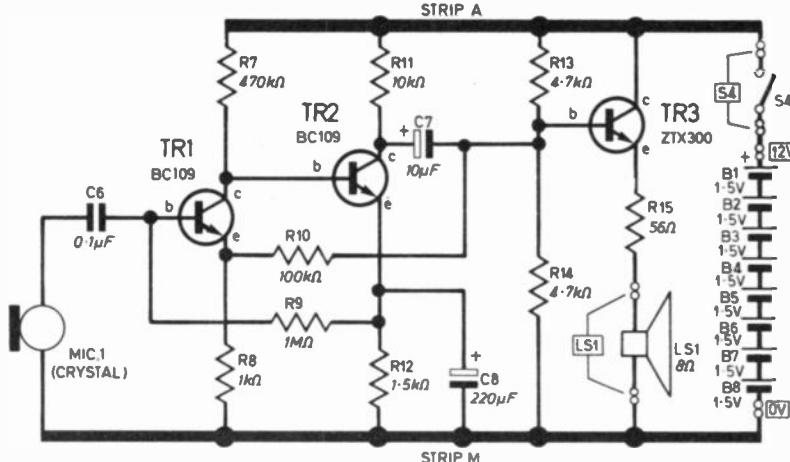
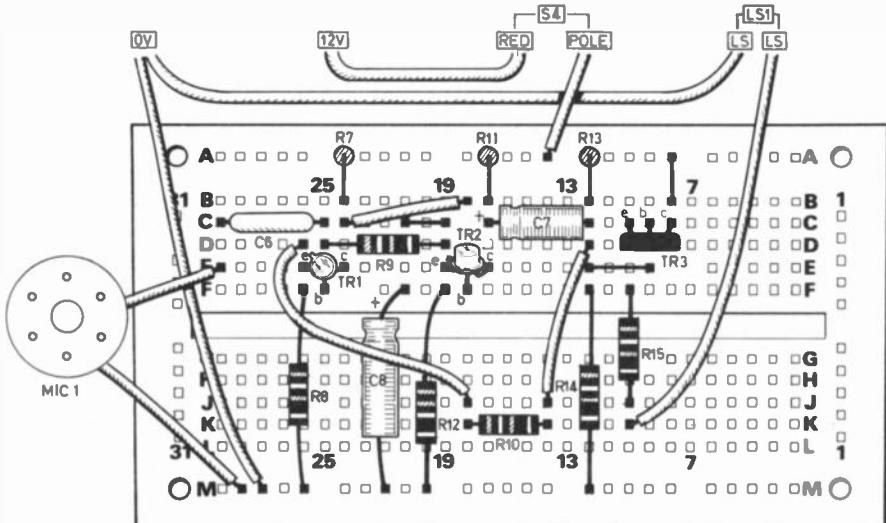
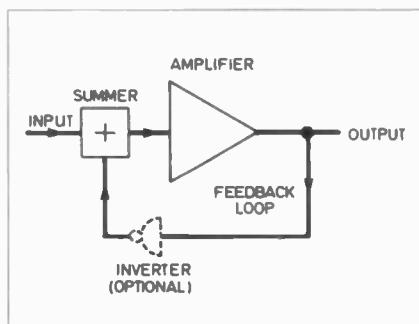

Fig. 7.7. Circuit diagram of a high gain, low noise amplifier with emitter follower (last stage).
Fig. 7.8. The layout of the components on the Verobloc for the circuit in Fig. 7.7 (Expt. 7.1).
Fig. 7.10. A feedback loop.
The circuit of Fig. 7.7 can be assembled on *Minilab* as shown in Fig. 7.8. When you have built and tested it you will find that it gives a much louder sound than the one-transistor amplifiers already investigated.
Fig. 7.10 outlines the main stages of feedback. If we include an inverter (a NOT gate for example) in the feedback loop, we have negative feedback. A good example of this is found in the amplifier of Fig. 7.7. The voltage at C7 varies according to the signal. A small fraction of these voltage changes is fed back through R10 to the emitter of TR1.
How the negative feedback loop in Fig. 7.7 works is illustrated below:
The Amplifier Module to be installed in Minilab is essentially that shown in Fig. 7.7.
- 7.4. Which capacitors are used for a.c. coupling in Fig. 7.7?
- 7.5. Why are BC109 transistors used for the first stages of amplification in Fig. 7.7?